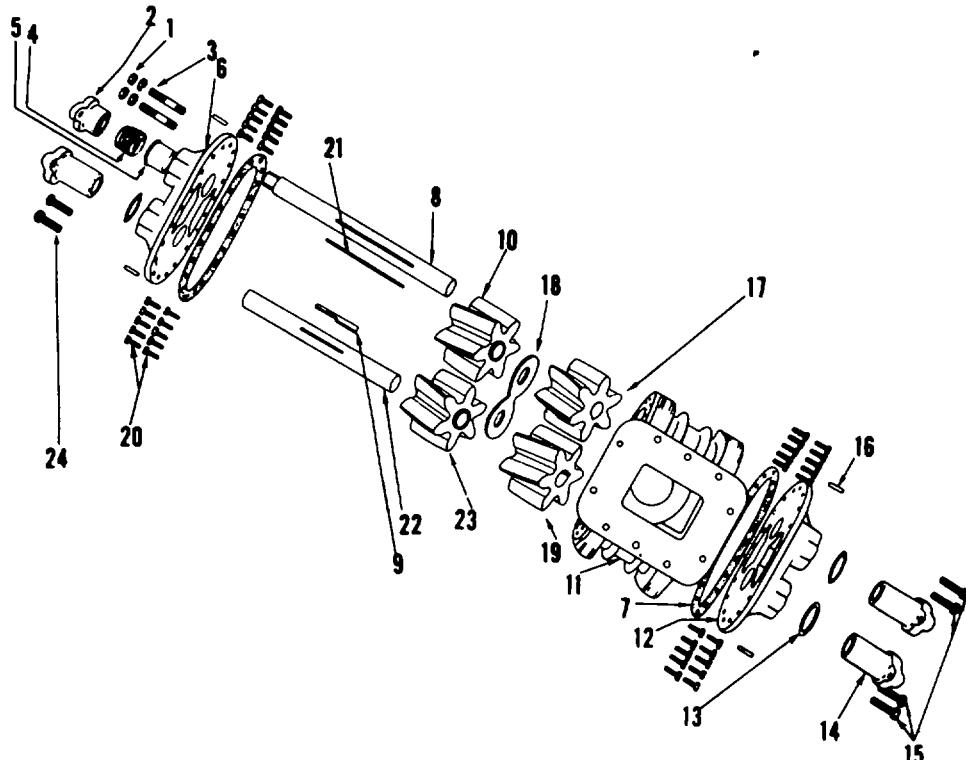

Fig. 77. Pump Assembly Exploded View
- a. Remove packing gland (2, fig. 77)
- c. Remove the impeller set from the housing (11) and remove the impeller (10) from the shaft (8).
- d. Remove the driven shaft (22) from the impellers.